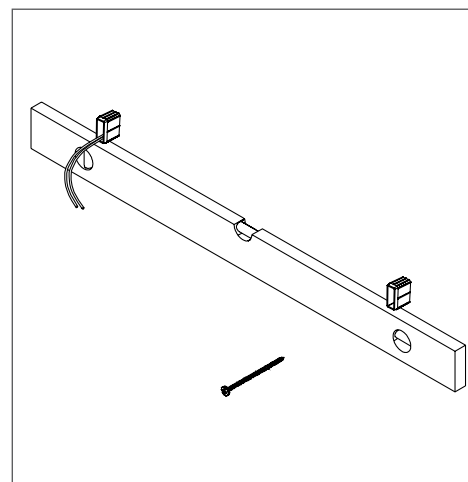

Fig 4.0
- Use the towel rail as a guide to determine the correct position for the bushes or use the fixing dimensions in Table 1.0. Use a level to align the bushes before fixing as shown in Fig 4.0.